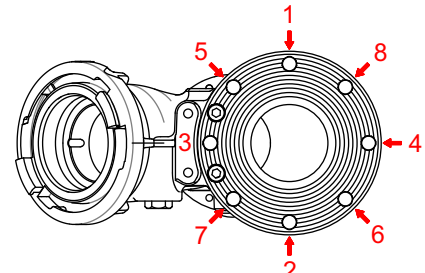

Figure 4.2.4
When Side A option G is specified, the 3" ANSI 150 Flange Inlet Adapter is pre-installed on side A of the Booster. Four 5/8-11 x 3" bolts and thick washers are supplied. One of the bolts and an O-ring seal are pre-installed between the Inlet Adapter and Booster body. To install the Booster on a 3" ANSI 150 flange, refer to Figure 4.2.4 and the instructions below.
2. Slide thick washers over 5/8-11 x 3" bolts. Slide (4) bolts through flanges and tighten until snug against mating flange. To prevent damage, verify that no bolt ends are close to contacting the Booster body. If they are close, then stack additional thick washers under the bolt heads or substitute studs with nuts. Stainless steel hardware is recommended.
3. Tighten (4) bolts or studs to 76-80 ft-lb (100-110 N-m) torque in the alternating sequence shown in Figure 4.2.4. Since only 4 bolts are required, either the 1-2-3-4 sequence or the 5-6-7-8 sequence may be used depending on desired orientation. Tighten at graduated intervals of 30%, then 60%, and finally 100% of the specified torque.